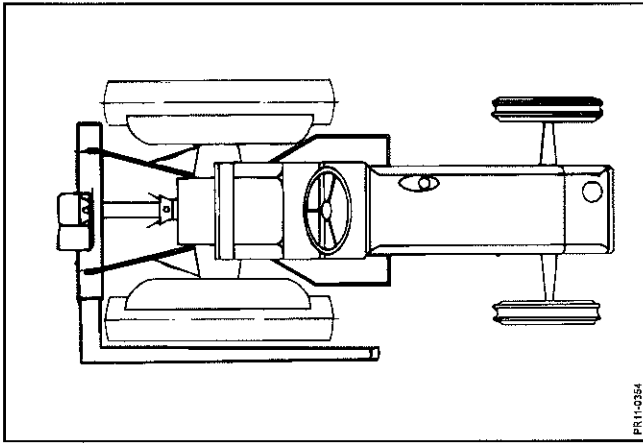

Fig.1
**Fig. 1** The lift frame is mounted in the three-point linkage of the tractor in such a way that it is as close to the rear wheel of the tractor as possible. This mounting ensures stable driving and that the frame is loaded as little as possible.